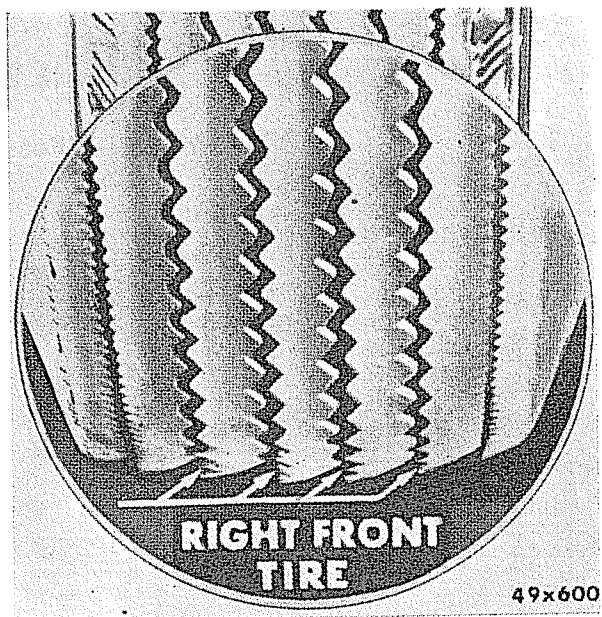

Fig. 20—Toe-Out Wear.
- (c) The amount of front wheel toe-in or toe-out affects the rate of tyre wear more than any other single cause. See Figure 19 for toe-in wear and Figure 20 for toe-out wear. Refer to Front Wheel Alignment in this section.